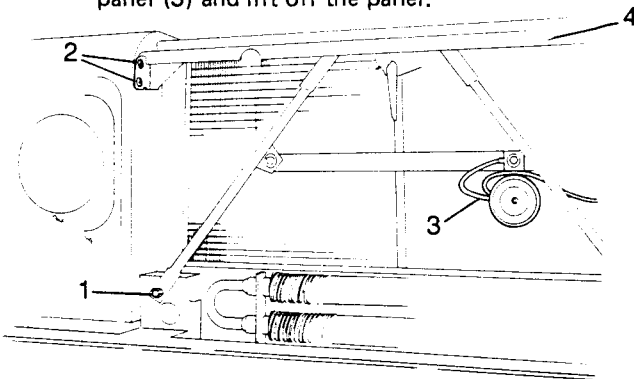

Fig M3.11
- (6) Refer to Fig M3.11. Remove the two bolts (1) at the bottom of the support tubes.
- (7) Remove the four screws (2) securing the grill panel frame to the wings. These screws have loose nuts inside the wings.
- (8) Disconnect the electrical connector (3) from the horn.
- (9) Lift off the complete grille panel framework (4).
- (1) Fig M3.11 still applies. Fit the grille panel framework into position and secure with the screws (2), nuts and washers through the wings.
- (2) Refit the two bolts (1) to the bottom of the support tubes.
- (3) Remake the electrical connection to the horn.